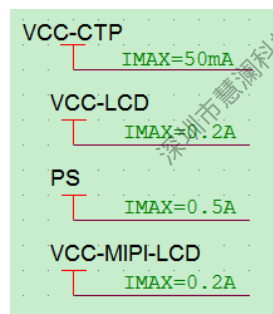

Figure 2-56 The Operating Voltage and Current of LCD Power
- Mark the operating voltage and the maximum operating current of SENSOR power in the schematic diagram to facilitate PCB layout design, as shown in Figure 2-56.